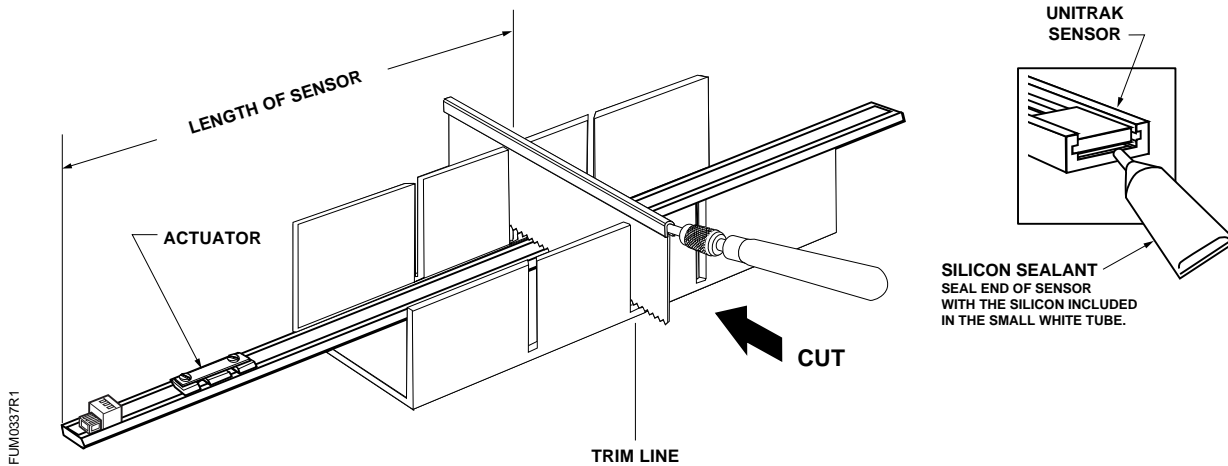

Figure 2. Cutting UniTrak Sensor Using the Trim Tool Kit.
1. Compare the actual length of the sensor strip with the required length of the sensor strip determined in *Measuring the Sash Opening*. If necessary, use the trim tool kit to cut the sensor strip. Be sure that the sensor is face up. See Figure 2. If you do not have to cut the sensor strip, skip to Step 3.
2. Separate the two sensor wires and seal the cut ends with the provided silicon (small, unmarked white tube). See Figure 2.